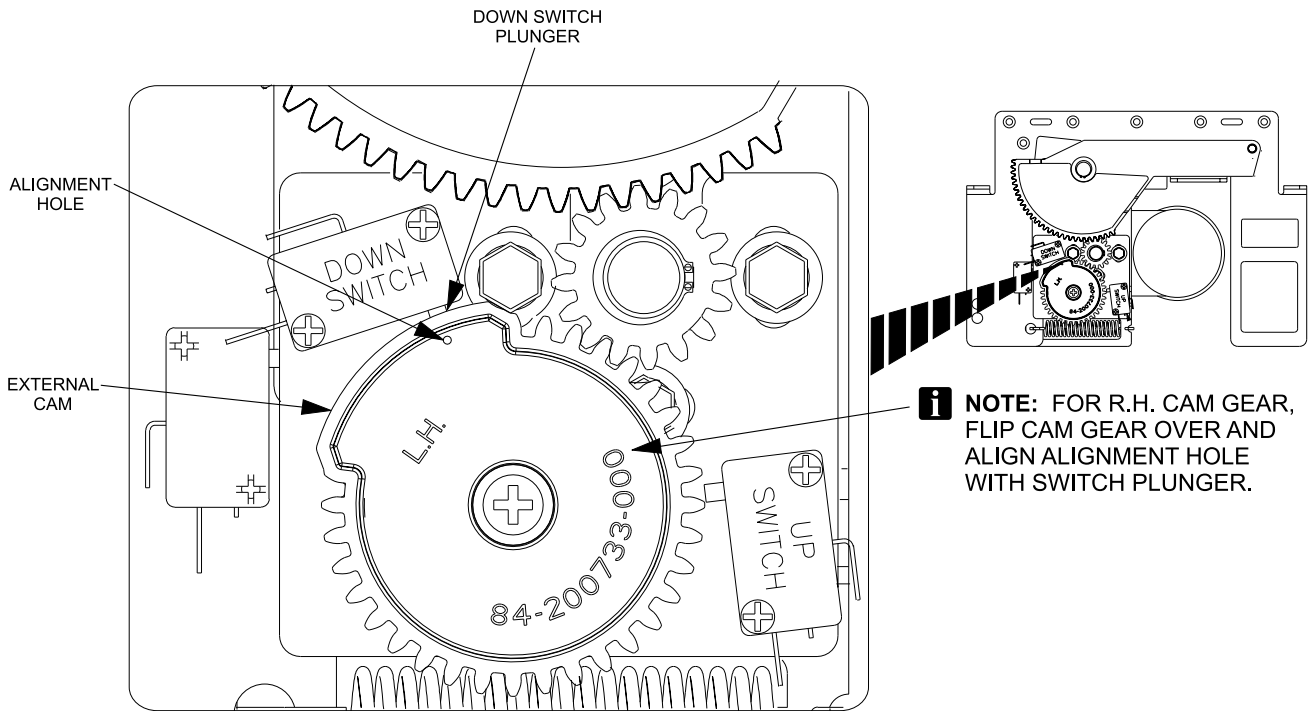

Figure 8
- There is a 1/16" (1.5 mm) alignment hole on the cam gear. Align this hole with the "Down Switch" plunger. Refer to *Figure 8*.